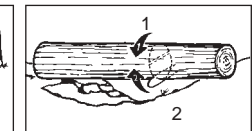

Fig. 12C
- Log supported on both ends: First, overbuck 1/3 diameter of log to avoid splintering. Second, underbuck to meet first cut and avoid pinching (Fig. 12C).